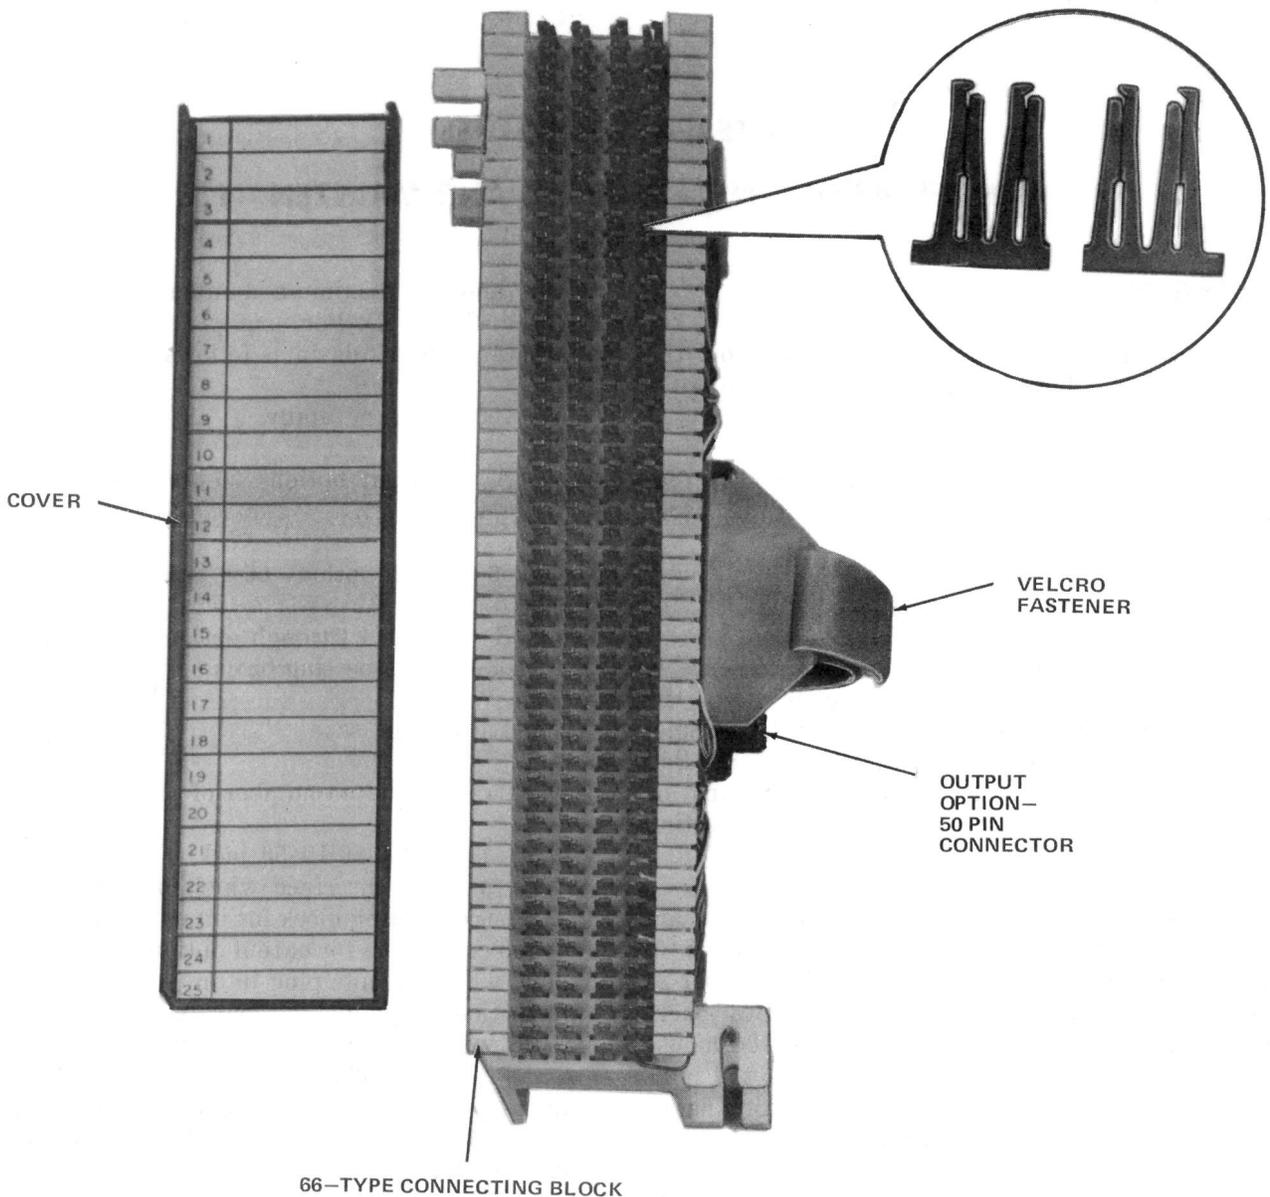

Fig. 1 — 700A-66-B1-25 Jack
2.04 The 700A-66-B1-25 jack (Fig. 1) is used to interface a maximum of 25 pairs of conductors from the Bell System network to customer- or telephone company-provided terminal equipment. The numbering system of the jack designates the output, input, and connect through options, also the design